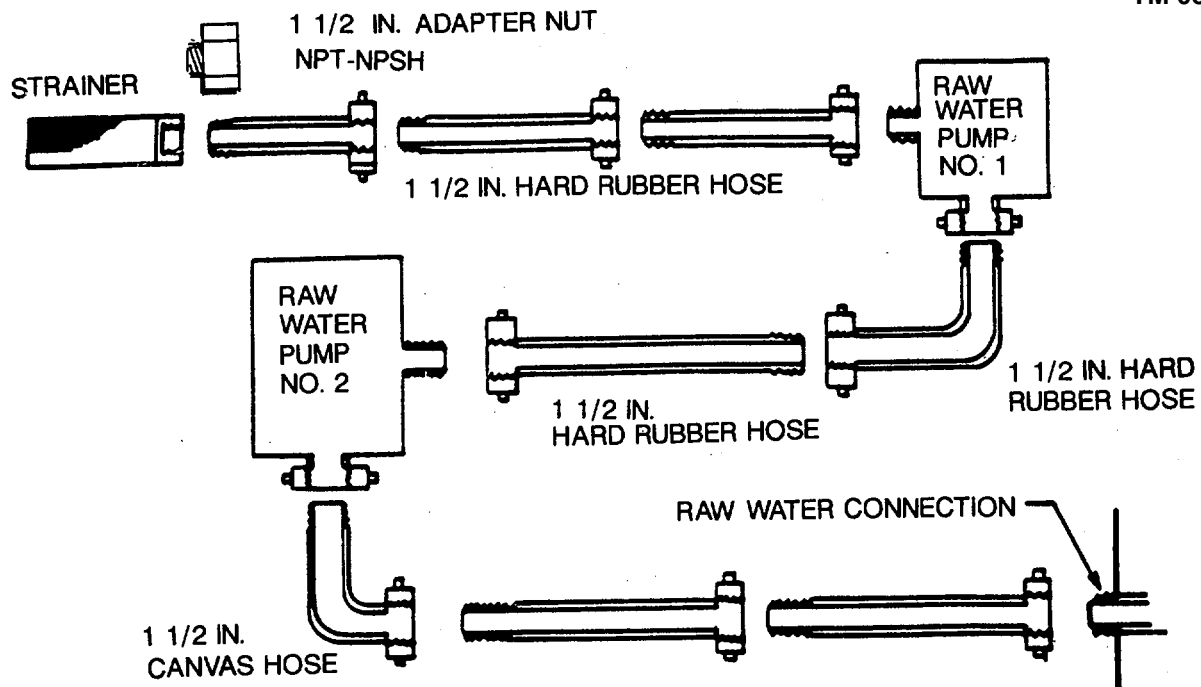

Figure 2-32. Raw Water System
p. Attach float to strainer with enough rope to allow strainer to go under water but not touch bottom. Avoid placing the strainer near sandy areas. Hook up raw water system (fig. 2-32). Use only enough hose to reach from the water source to the ROWPU.